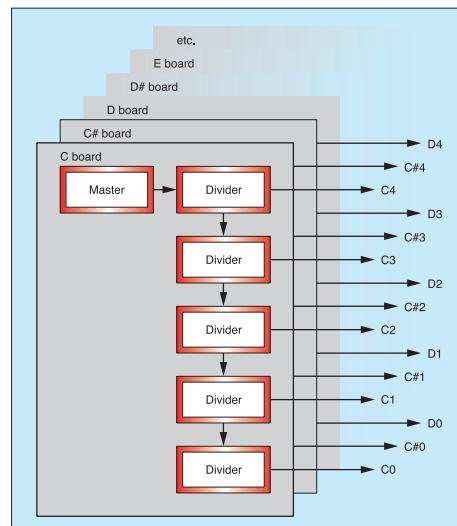

Figure 5:
► through devices called octave dividers. These reduce the initial frequencies by factors of two, four, eight... and so on, thus creating the correct frequencies for all of the Cs across the keyboard, all of the C#s, all of the Ds... and so on (see Figure 5, right).